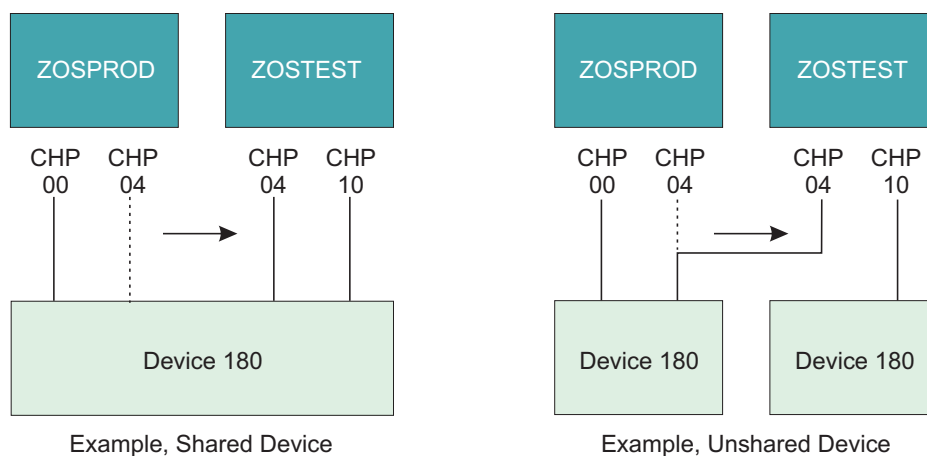

Figure 21. Two examples of duplicate device number conflicts
**Examples of duplicate device number conflicts:** Figure 21 provides two examples of duplicate device number conflict.
The following example shows the IOCP statement for Figure 21. Both examples use identical IOCP statements.
In Figure 21 on page 61, ZOSTEST can access device 180 only through channel path 10 if the operator takes no action in response to the conflict message.
1. Configure offline the original channel path (CHP 10 in Figure 21 on page 61).
2. Configure offline and then online the reassigned channel path (CHP 04 in Figure 21 on page 61).
3. If necessary, configure online the original channel path (CHP 10 in Figure 21 on page 61). Another conflict message is issued because a new conflict has been created. The operator then ignores this conflict as described in option A. (Access is still allowed to any nonconflicting devices on the original channel path.)
In Figure 21 on page 61, ZOSTEST can access device 180 only through channel path 04 if the preceding steps are performed in response to the conflict message.
In Figure 21 on page 61 (shared device), ZOSTEST can access device 180 through CHP 04 and CHP 10 if CHP 04 is defined to ZOSTEST in the IOCDs.
In Figure 21 on page 61 (unshared device), ZOSTEST can access either device 180 (unshared device) if one or both of the devices are assigned a new device number in the IOCDS.
In Figure 21 on page 61, if ZOSTEST is not active when CHP 04 is reassigned, or ZOSTEST is deactivated and then activated after CHP 04 is reassigned, ZOSTEST does not activate until the conflict over device 180 is resolved.